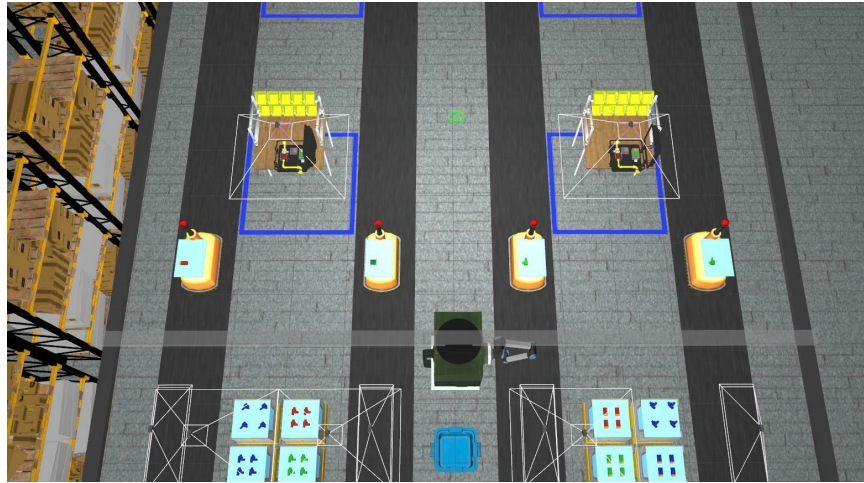

Figure 2: agv1 and agv2 at as1. agv3 and agv4 at as3.
8. Edit `[rwa2_trial.yaml]` so that when the simulation starts, agv1 and agv2 are at as1, and agv3 and agv4 are at as3 (see Figure 2).